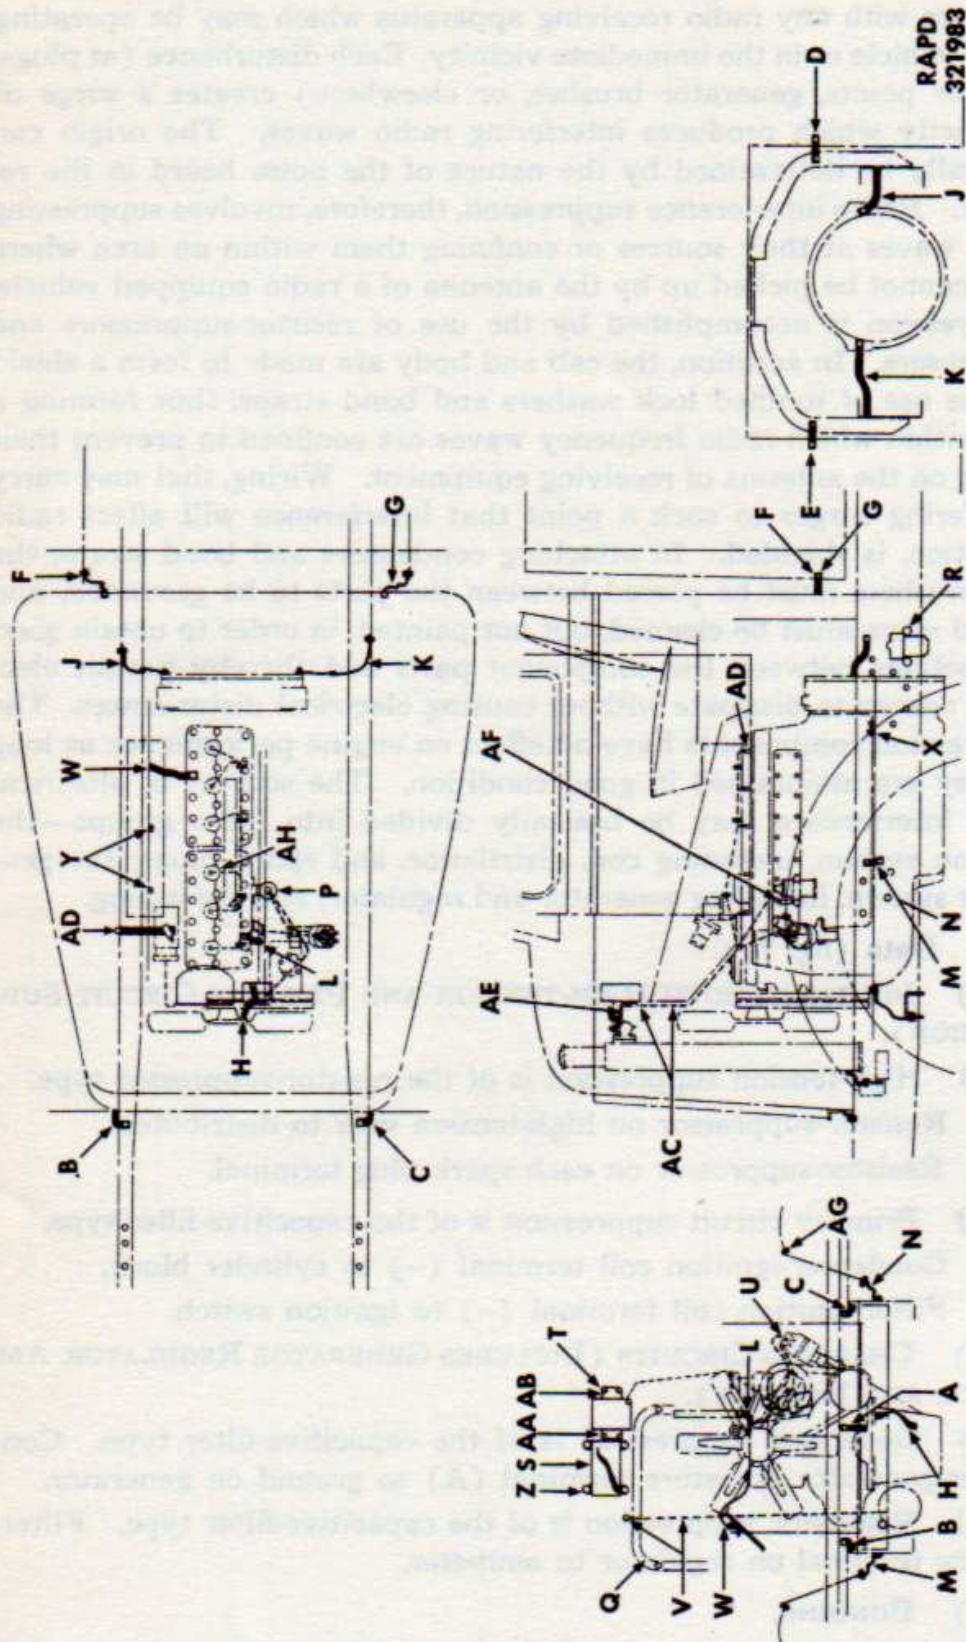

Figure 76 — Bonding and Suppressor Locations
b. Data (fig. 76).
(1) IGNITION (BOTH HIGH-TENSION AND PRIMARY CIRCUIT SUPPRESSION).
(a) *Bond Straps (Ground Straps)*. NOTE: All key letters in this step and step (b) refer to figure 76.
Legend for Figure 76 — Bonding and Suppressor Locations
b. **Ignition Circuits** (fig. 76).
(1) Resistor-suppressors, of which there are seven—one at each spark plug and one at the distributor—consist of a high-resistance element in an insulated housing. Inspect each suppressor for cracked or broken housing. Each suppressor must be threaded tightly into end of spark plug wire so screw enters strands of cable. Wire terminals must be tight, well pushed down into place, and free of corrosion and dirt.
(2) Capacitive-filters, of which there are two in the ignition circuit, are located at the ignition coil and at the left half of the dual
c. Charging Circuit (fig. 76).
(1) A capacitor-filter is mounted on the generator and attached to the armature "A" terminal. The mounting screw must be tight with the internal-external toothed lock washer between the filter bracket and the generator housing and the external toothed lock washer under the screwhead.
(2) The capacitive-filter used on the regulator circuit is the right half of the dual unit filter mounted on the dash. Terminal connections and wiring should make good electrical contact. Mounting and grounding bolts should be kept drawn tight. Mounting surfaces, tops and bottoms of filter, and their placement positions on the vehicle must be clean and free from paint and accumulated dirt.
d. **Bonding** (fig. 76): Bonding points must be clean and tight. Tinned spots must be clean, but not painted. Where bonding is obtained by use of an internal-external toothed lock washer, the lock washer must be between the parts to be grounded.